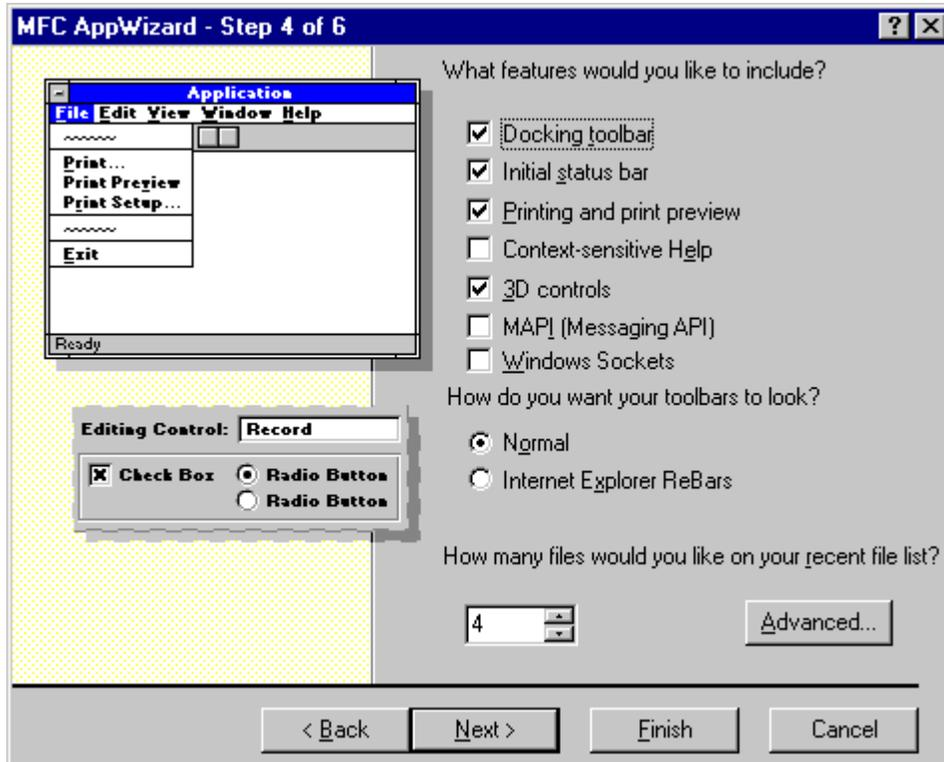

Figure 9 MFC AppWizard – Step 4
7. The next dialog you will see is the MFC AppWizard – Step 4 of 6 dialog. You do not need to make any changes to the options in this dialog. It should look like the one in Figure 9. Push **Next**.